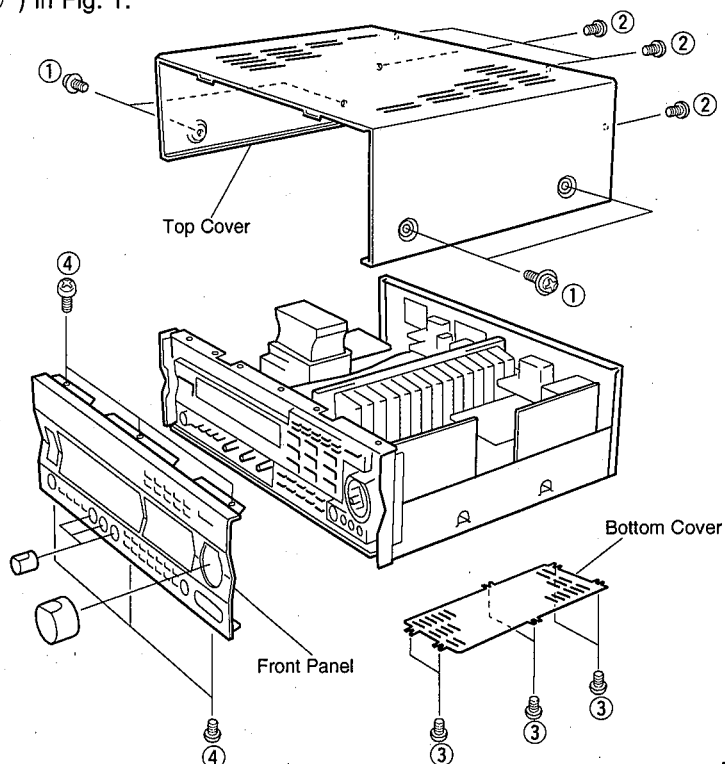

Fig. 1
- a. Remove 4 screws (①) and 4 screws (②) in Fig. 1.
- a. Remove 6 screws (③) in Fig. 1.
b. Remove 6 screws (④) in Fig. 1.